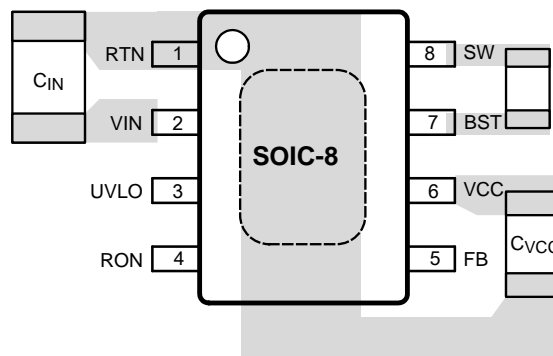

Figure 17. Placement of Bypass Capacitors
1. C_{IN} : The loop consisting of input capacitor (C_{IN}), V_{IN} pin, and RTN pin carries switching currents. Therefore, the input capacitor should be placed close to the IC, directly across V_{IN} and RTN pins and the connections to these two pins should be direct to minimize the loop area. In general it is not possible to accommodate all of input capacitance near the IC. A good practice is to use a 0.1 μF or 0.47 μF capacitor directly across the V_{IN} and RTN pins close to the IC, and the remaining bulk capacitor as close as possible (Refer to Figure 17 Placement of Bypass Capacitors).
2. C_{VCC} and C_{BST} : The V_{CC} and bootstrap (BST) bypass capacitors supply switching currents to the high and low side gate drivers. These two capacitors should also be placed as close to the IC as possible, and the connecting trace length and loop area should be minimized (See Figure 17 Placement of Bypass Capacitors).